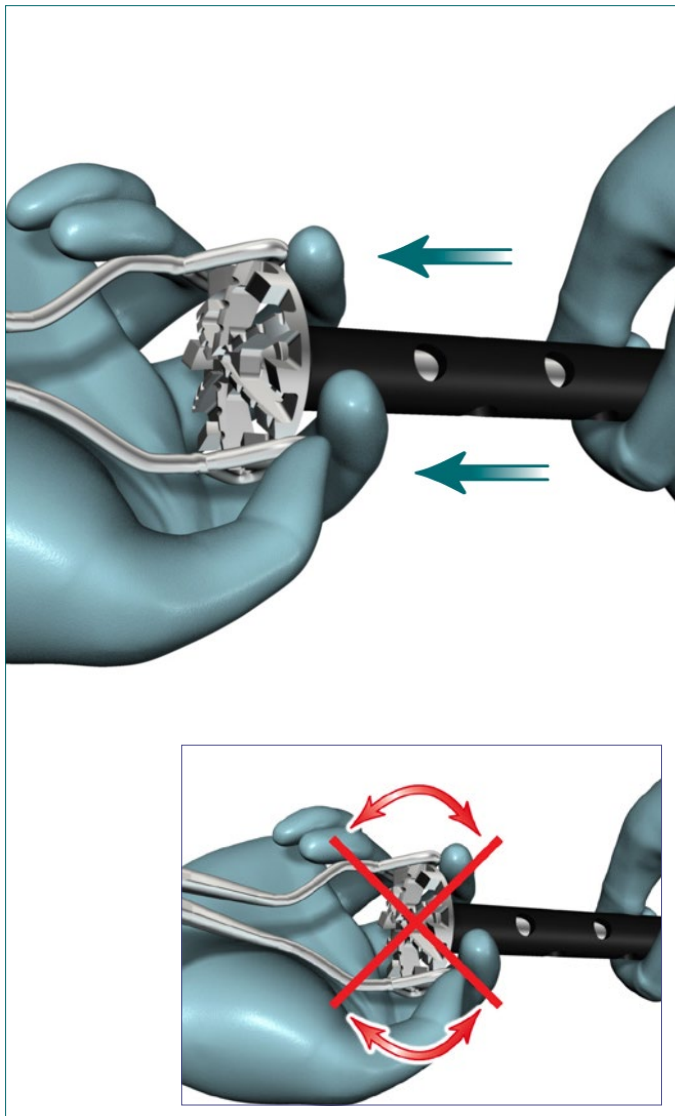

Figure 77
- By holding the reamer/planar face as shown [Figure 77] with the glenoid holder, pull the Glenoid Reamer/Planar face away from Cannulated Straight Reamer Driver in an axial direction to disengage the quick connect feature.
Do not toggle the Glenoid Reamer/Planar during disassembly as this has the potential to compromise the fit of the quick connect mechanism [Figure 77 inset].